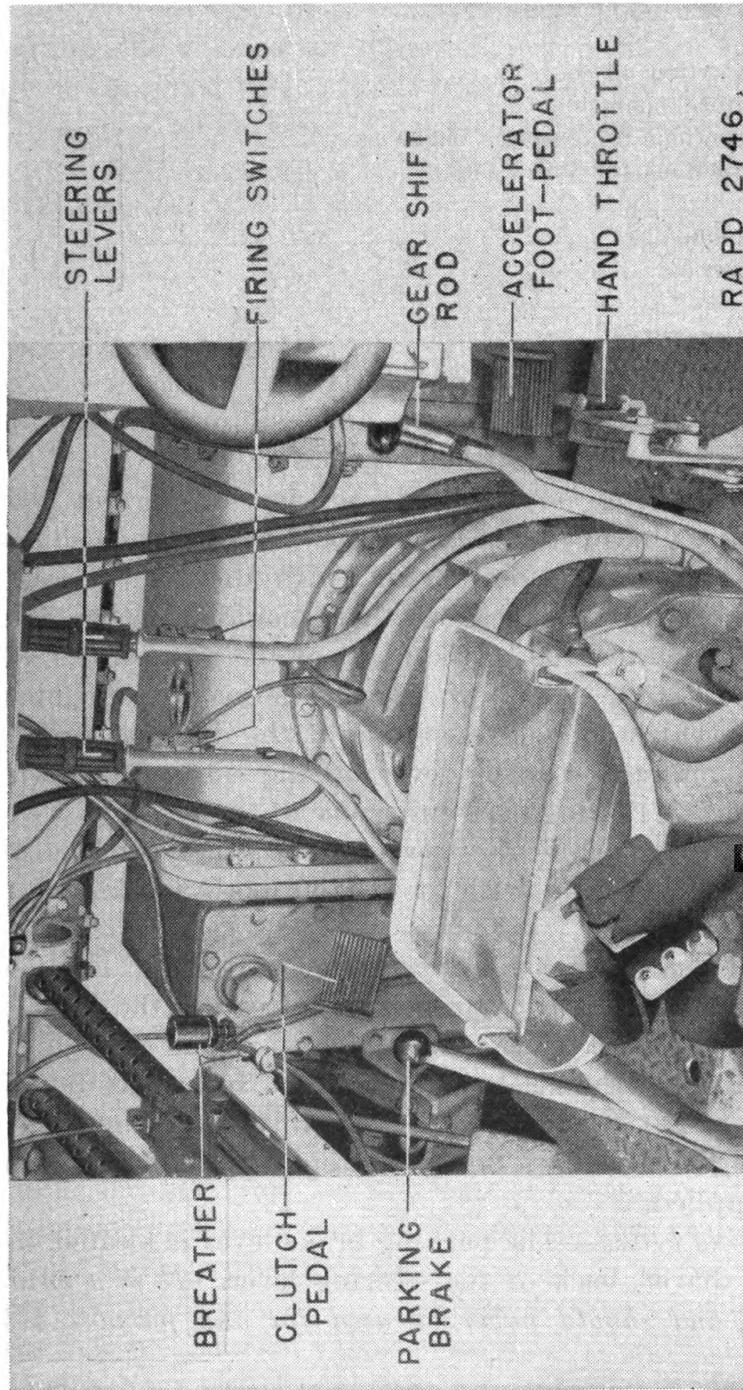

FIGURE 6.—Driver's controls.
c. Steering levers.—(1) Two steering levers are mounted on the floor of the vehicle, one on each side of the driver's seat. To steer the vehicle, pull the steering lever on the side toward which it is desired to turn. Pulling back either one of the levers slows down the track on that side, while the speed of the other track is increased. Thus the vehicle turns with power on both tracks at all times (fig. 6).